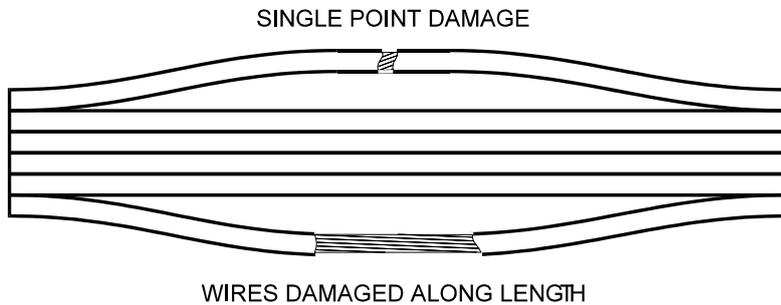

Figure 6-9 - Wire Damaged Along Its Entire Length
- (1) When attaching to the pigtail spare lead of a potted termination device;
- (2) To splice multiple wires to a single wire; or
(3) To adjust wire sizes so they are compatible with contact crimp barrel sizes.
33. If a wire is damaged at a single point and there is sufficient slack in the wire, as shown in Figure 6-9, the damaged wire can be repaired with a single splice.